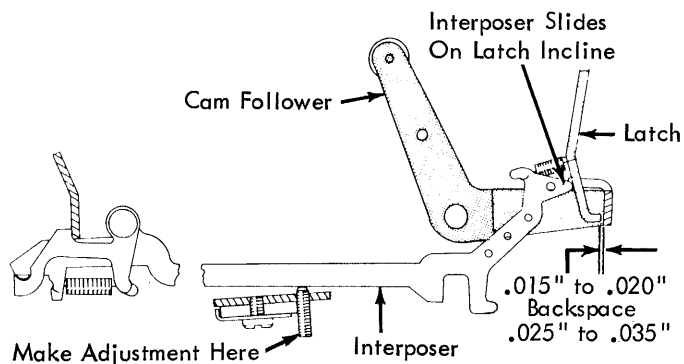

FIGURE 161. Interposer Adjusting Screw
4. **Interposer Adjusting Screws** - Adjust the interposer adjusting screws so that a front to rear clearance of .015" to .020" exists between all the operational latches and their respective cam followers, with the exception of the spacebar latch. The spacebar latch should have a clearance of .025" to .035" (Fig. 161).